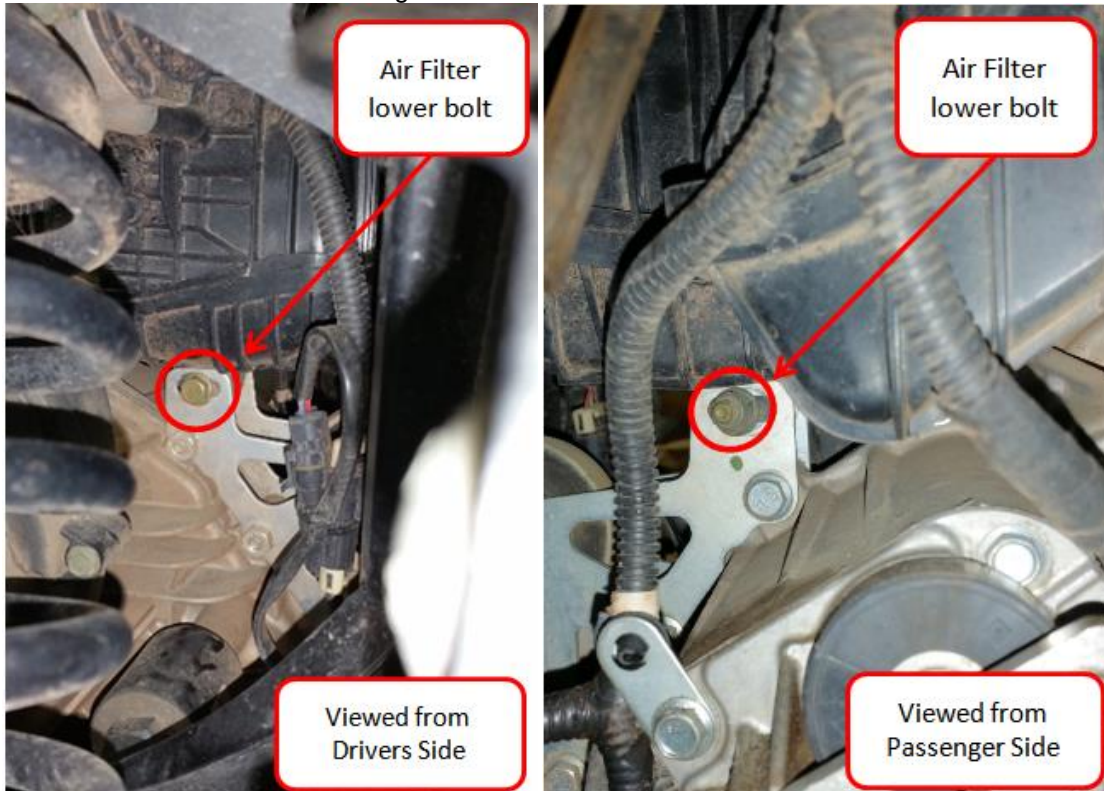

Figure 2
4. Use two M13 sockets to completely remove the bottom bolt of the Air Filter Housing located toward the rear of the vehicle. This step can be accomplished with one person; however, if a friend can help hold one of the wrenches it is much easier. See Figure 2.